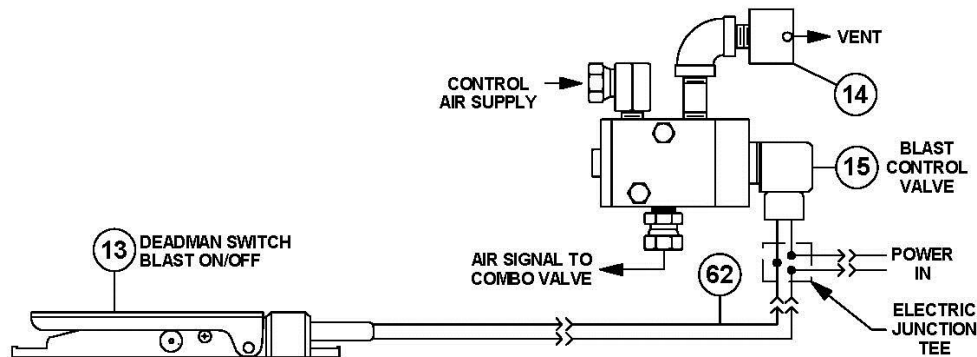

Figure 5.6 – Thompson Valve Electric Blast Control System
5.12.2. Electric Deadman System: When the electric deadman lever is pressed down it closes the electric circuit and supplies electric current to the control valve (#15). The control valve opens and sends air signals to the Combo Valve® (#5), auto air valve (#58) and the Thompson® Valve (#12). When the deadman lever is released the electric circuit is cut off closing the control valve. The signal air vents from the breather (#14). See Figure 5.6 and the drawing in Section 9.1 and 9.2.